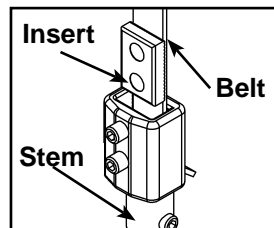
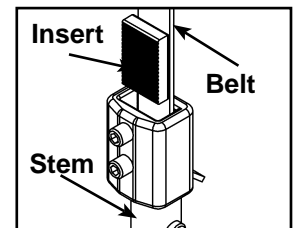

Figure 8A
Figure 8B
E. Verify belt and insert are installed properly, as shown in Figure 8A. **NOTE:** Do not install the insert backwards as shown in Figure 8B.